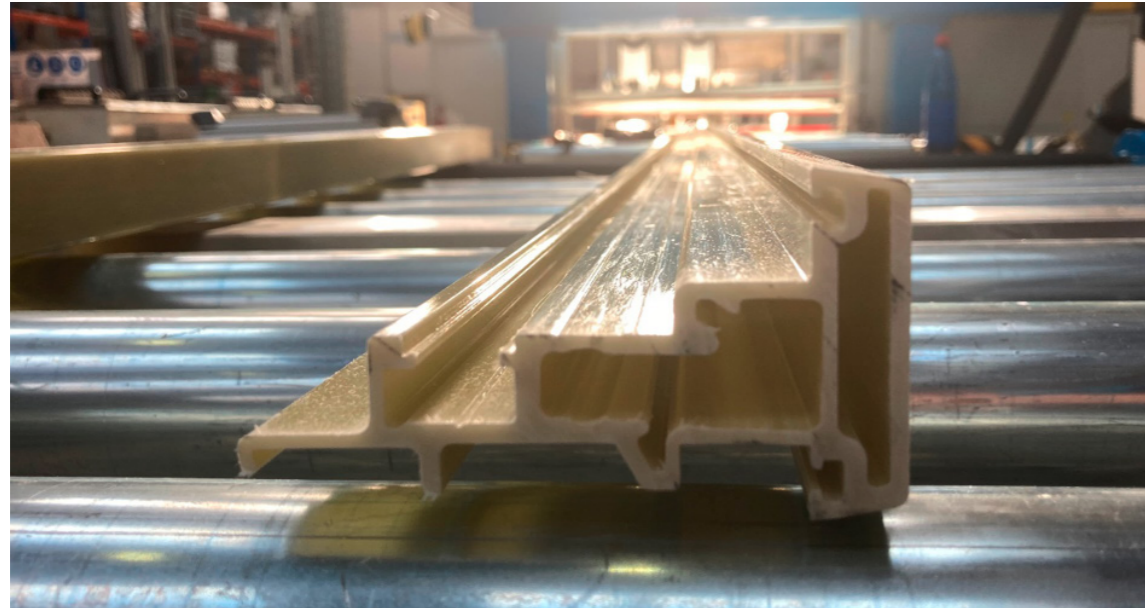

Fig. 7 Prototype of the pultruded window profile based on Baydur® PUL
3. The PU pultrusion profile design was validated by KraussMaffei, which involved producing the profile using standard PU-specific pultrusion equipment. The produced pultrusion profiles are shown in Figures 7 & 8. The equipment consisted of a dosing machine, a mixing head, an injection box, a heated die, a puller, and a saw. The profile was produced with unidirectional glass fibers with 2.400 and 4.800 tex.